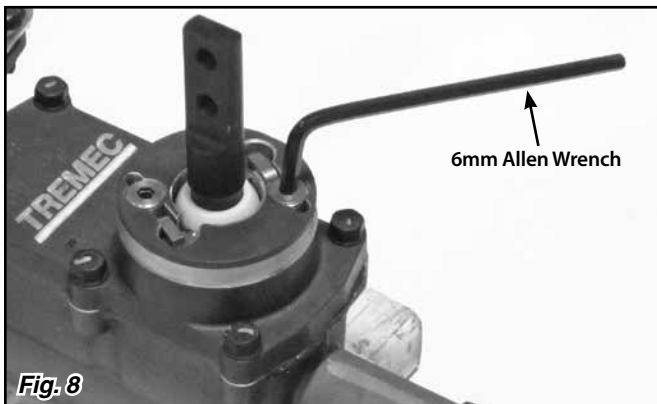
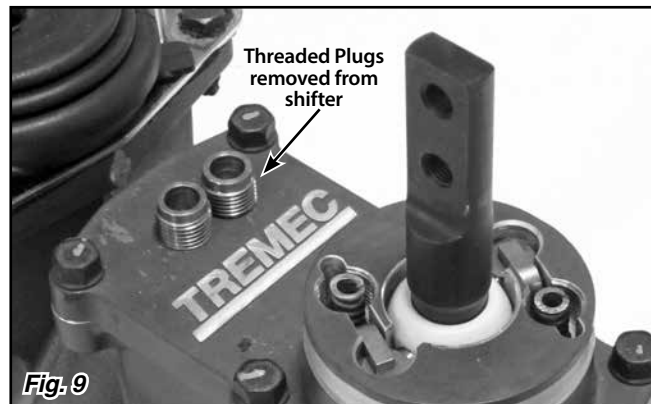

Fig. 8
Fig. 9
**Step 5:** Using a 6mm Allen wrench, carefully remove the two threaded plugs from the shifter turret plate. **Make sure the corners on your Allen wrench are not worn!** The tool will have very little engagement depth in the threaded plug, making it easy for the tool to slip out. **Fig. 8 and Fig. 9**